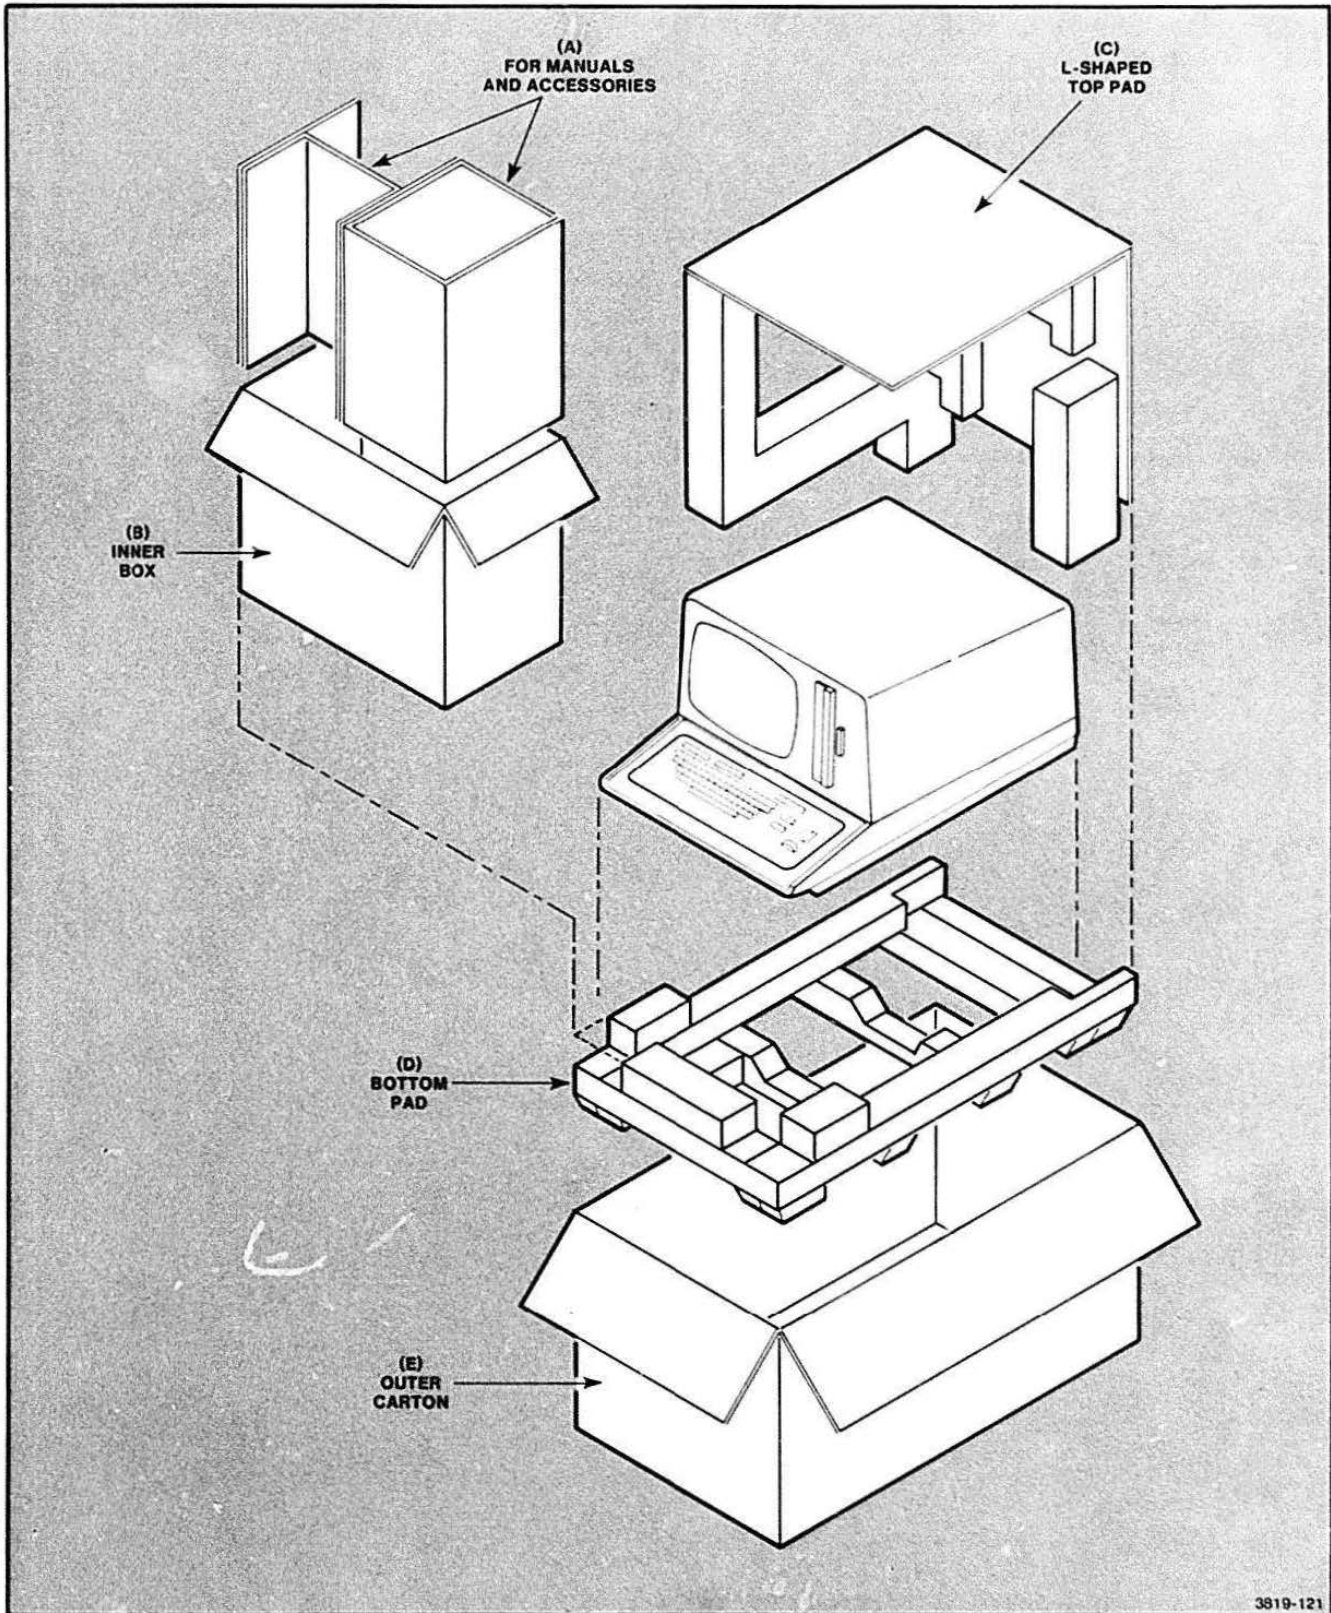

Figure 2-4. Repackaging Diagram
In the event that the 4112 needs to be shipped, for servicing or to be used in a different location, follow this repackaging procedure. Study Figure 2-4 along with the procedure.
2. Place Bottom Pad (D) in the bottom of the Outer Carton (E).
5. Place the "L" shaped Top Pad (C) so that it fits securely in back of and on top of the 4112. See Figure 2-4.
6. Arrange "scored pads" (A) as per Figure 2-4 and slide them into Inner Box (B).